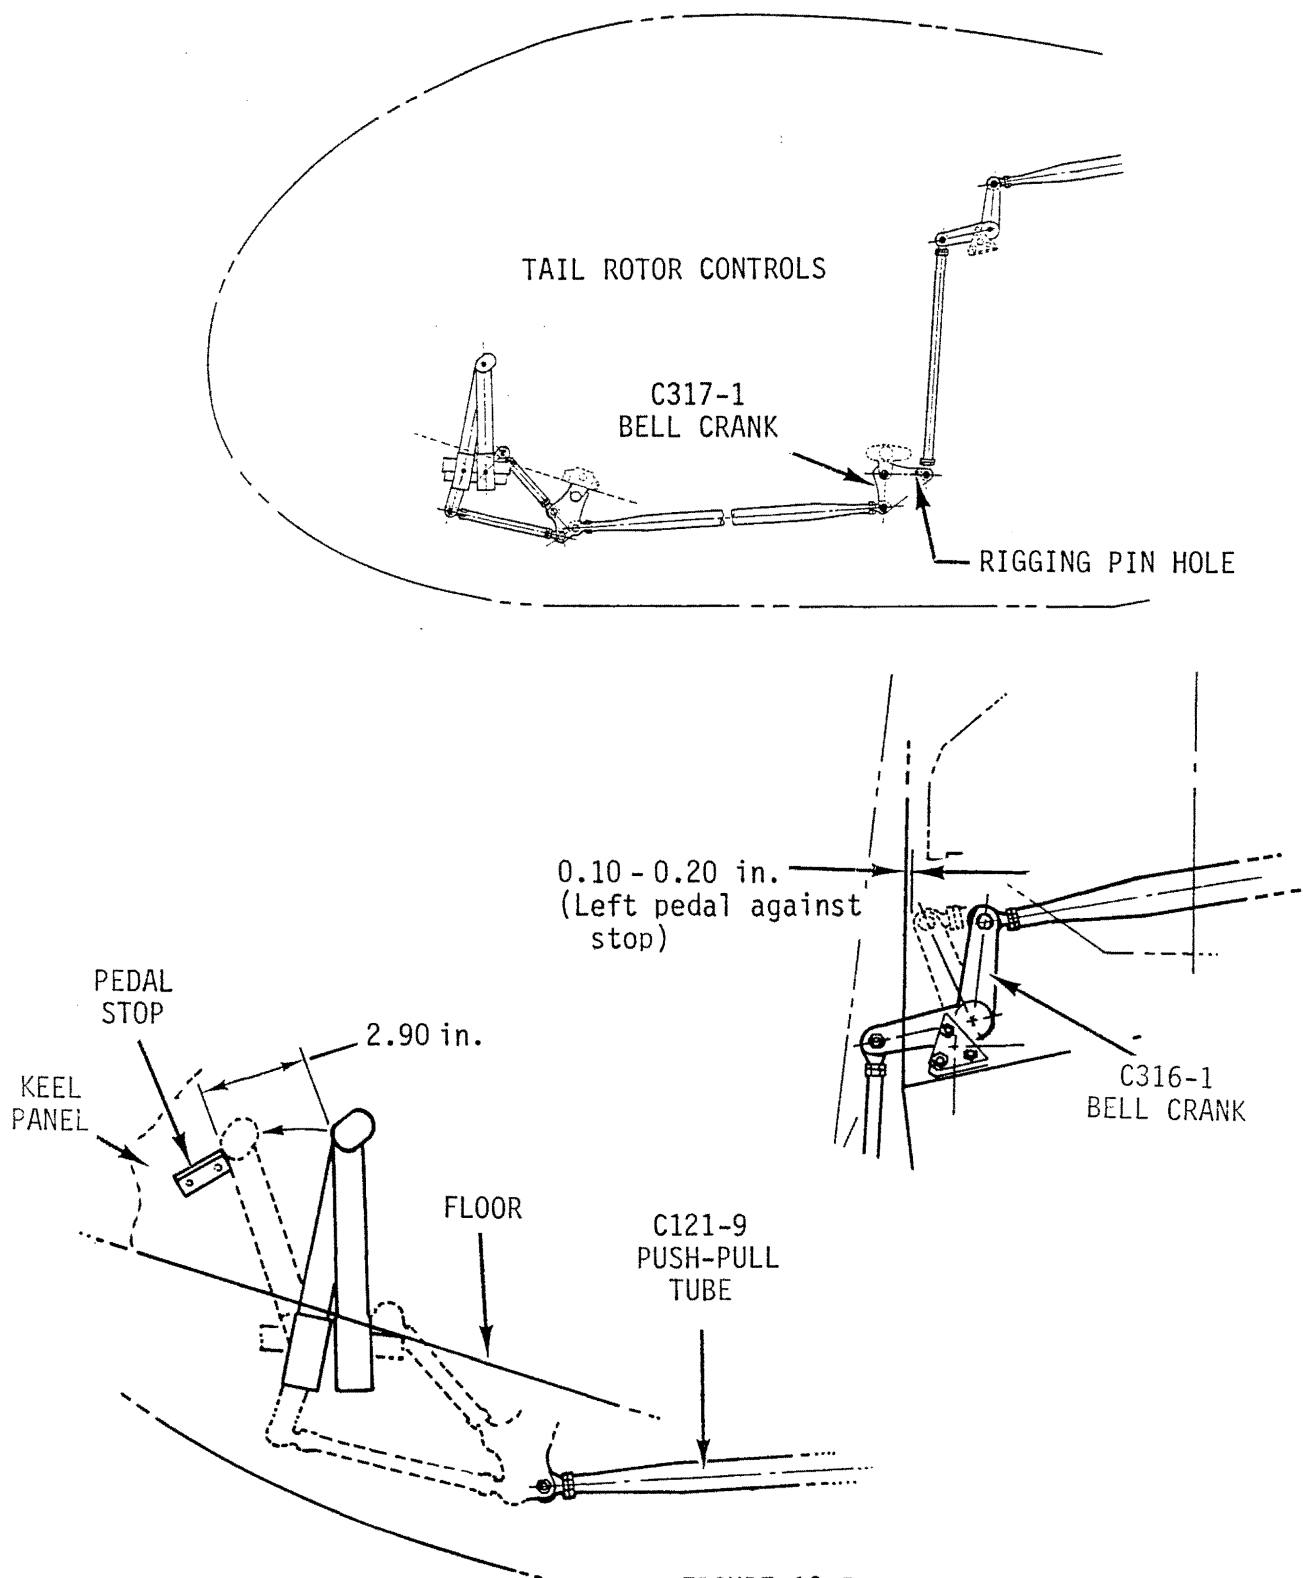

FIGURE 10-5 TAIL ROTOR CONTROL PEDAL RIGGING
10.131 Pedals (See Figure 10-5)
10.132 C316 Bellcrank (See Figure 10-5)